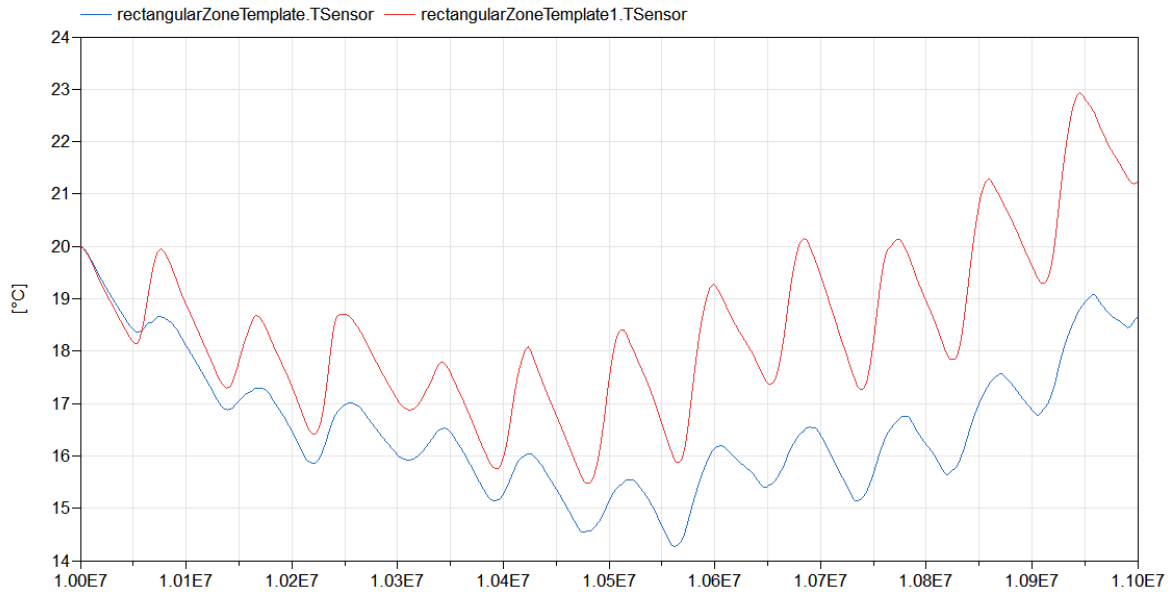

Figure 5: Zone temperature for the zone with the north oriented window (blue) and the zone with the south oriented window (red).
**Reference result** Figure 5 shows the zone temperatures of both zones. Note the large influence that the window placement has on the zone dynamics!